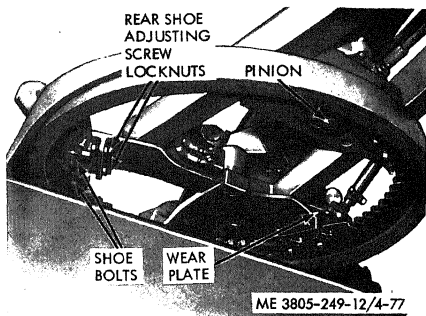

Figure 4-77. Circle adjustment.
a. Circle Adjustment. Refer to figure 4-77.
(1) Center and level the blade three or four inches off the ground. Check the clearance between each wear plate and the top of the circle.